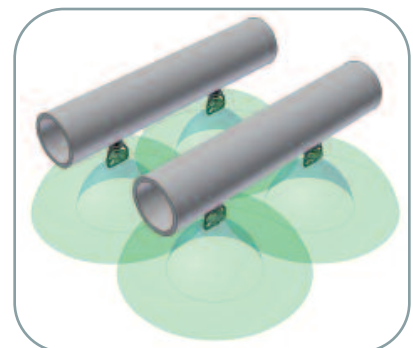

Figure 6 - Nozzle Spray Pattern
- Check to see if the nozzles are producing the spray pattern shown in Figure 6.